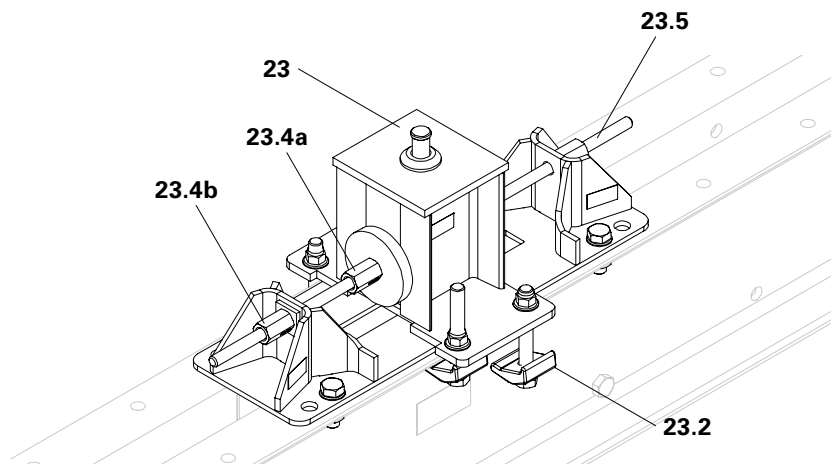

Fig. A4.02
3. Secure the Horizontal Bearing (23) additionally with the clamps (23.2). (Fig. A4.02)
2. Move the Horizontal Bearing (23) laterally until it is in the required position.
- (Fig. A4.02)